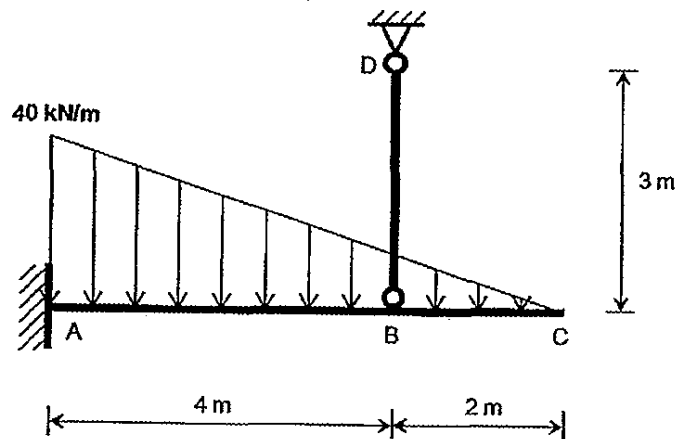

Figure Q2(a)
- (b) The beam shown in Figure Q2(b) is identical to that in Figure Q2(a), except that the rod BD has been replaced by a roller. Using the results obtained in part (a), compute the reactions at A and B.